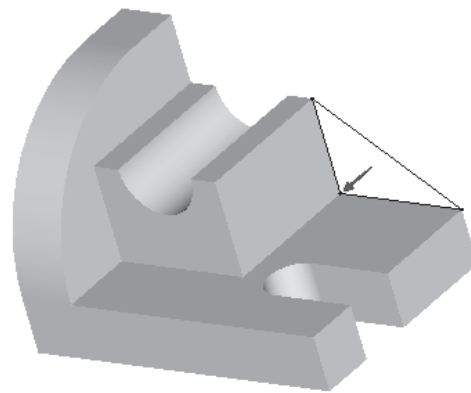

Figure 4-89 Arrow showing the direction of material addition
2. After the sketch is complete, choose the **Continue with the current section** button. The **Extrude** dashboard is enabled. Using the middle mouse button, orient the model, as shown in Figure 4-89.